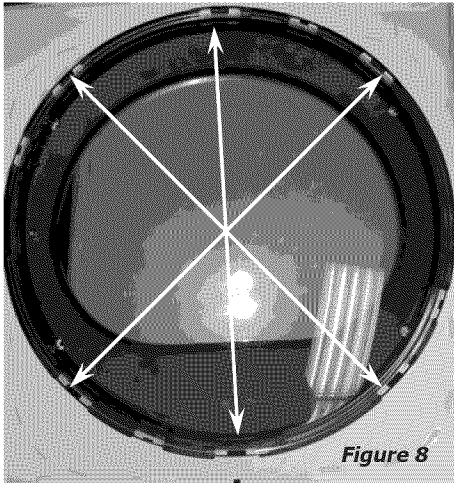

Figure 8
- 9 Disengage several of the retention tabs and pull lens away from the transition ring. (Figure 8)